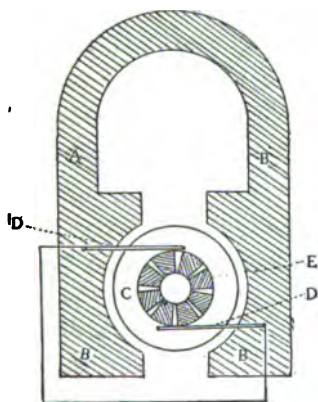

Fig. 6
The magneto is widely used in generating electricity for gas engines, and, while apparently complicated, this instrument is really very simple. In Fig. 6 a simple form of magneto is shown diagrammatically. In this cut A and B are the soft-iron magnets between the poles of which a magnetic field exists. In this field is a revolving armature (C) wound with wire. While at rest no current exists in this wire, but as soon as the armature revolves it moves through the magnetic field and produces a current in the wire. As the rotating armature produces currents which flow in opposite directions, means must be provided for gathering the current and causing it to flow in one direction. This is accomplished by a segmented copper piece called the *commutator* (E), and bits of metal or carbon known as *brushes* (D, D), which bear upon the commutator. By this arrangement the current flows in one direction along the outside wires where it is to be used.